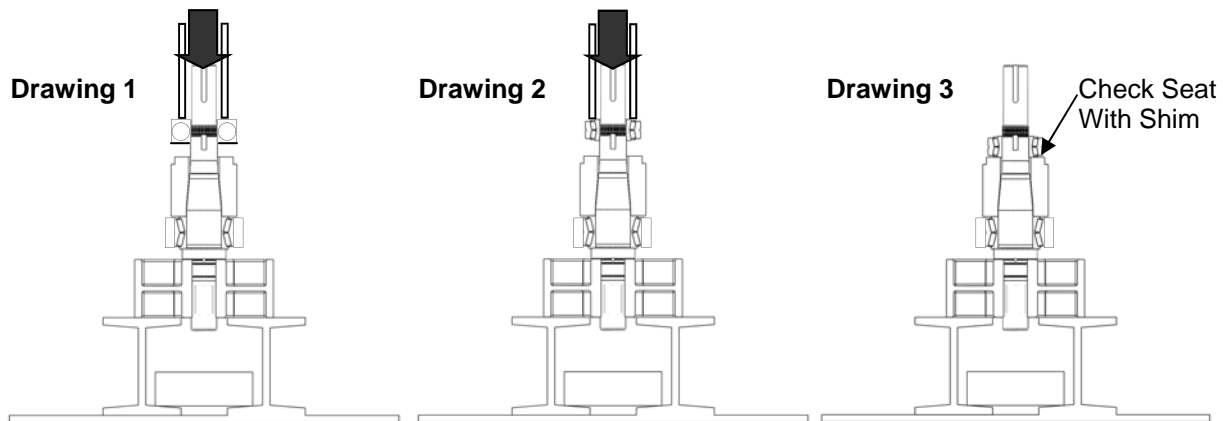

Figure 50: Pressing Rear Bearing onto Shaft
- For pump models with single ball bearings apply a light coat of lubricant on the shaft. Open the new rear bearing assembly and place it over the shaft above the bearing spacer with the shielded side of the bearing facing the spacer (Figure 50, Drawing 1). Press the bearing on by pressing only on the inner race.
- For pump models with tapered roller bearings, apply a light coat of lubricant on the shaft. Open the new rear bearing assembly and do not interchange any parts. Place the rear bearing over the shaft above the bearing spacer (Figure 50, Drawing 2). Reference Table 5 for the required force (in tons) needed to press the bearing onto the shaft. Using a sleeve that rests on the inner cone of the bearing and rides over the shaft, press the bearing on until it seats against the spacer.
Make sure the bearing is rested on the bearing spacer using a shim (Figure 50, Drawing 3).